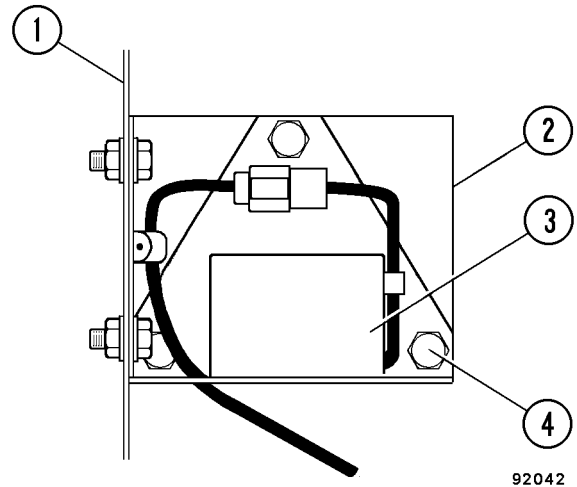

FIGURE 60-13. INCLINOMETER
2. Remove the three capscrews, nuts and lockwashers (4, Figure 60-13) and inclinometer (3).
1. Install inclinometer (3, Figure 60-13) with capscrews, nuts and lockwashers (4).
2. Loosen the three inclinometer mounting capscrews (4, Figure 60-13) and rotate the inclinometer until a voltage range of 2.6 ± 0.1 volts can be measured (using a volt-meter) at pins 1 and 2 of the inclinometer harness connector.
3. Tighten all capscrews (4, Figure 60-13) to standard torque, after the adjustment.